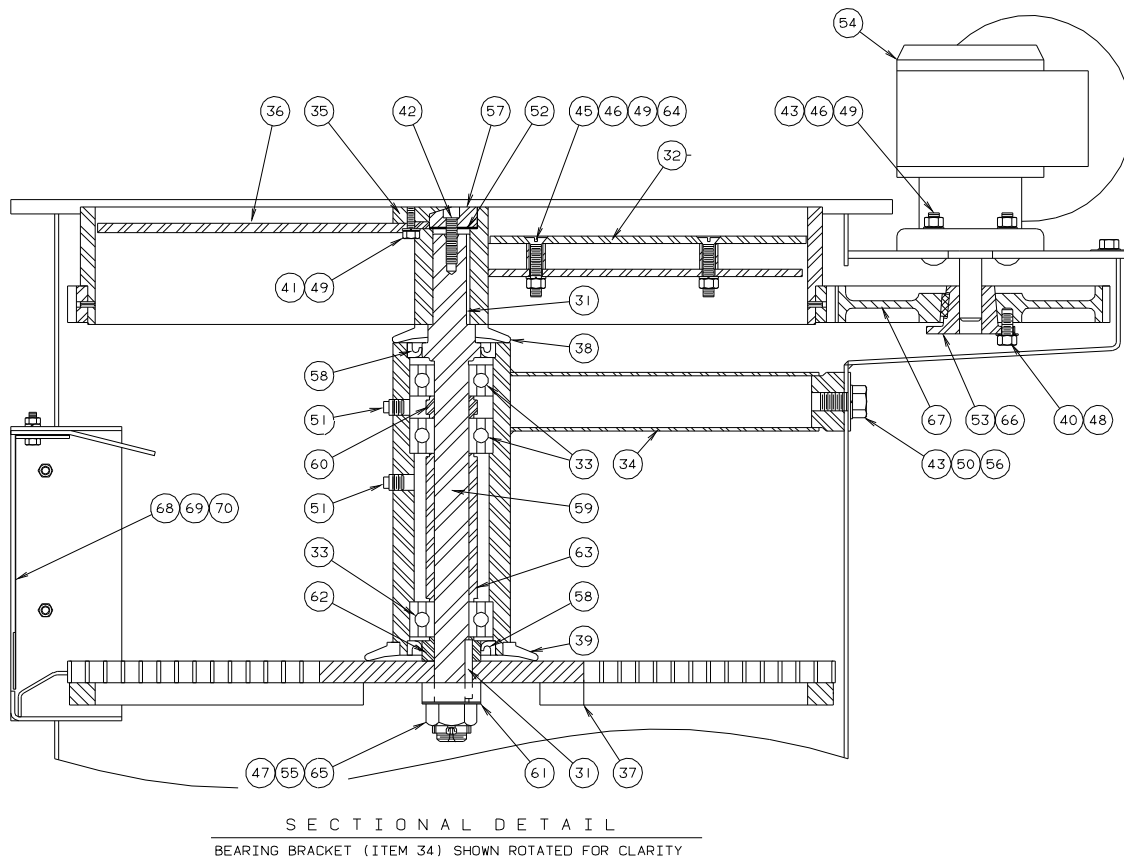

Figure 9-5A
1. Follow water tank removal instructions, Steps 1-9. See Figure 9-5A.
The cutter shaft and bearings are sealed in the bearing bracket assembly. The cavity between the bearings has been filled with a food-grade grease to prevent the presence of moisture and prolong the life of the unit. If there is any vertical or side movement of the shaft or if the bearings feel rough or tight when turning the shaft, the assembly should be dismantled and rebuilt. Refer to the cutter tank assembly drawing, Figure 9-5A, for parts location and identification.